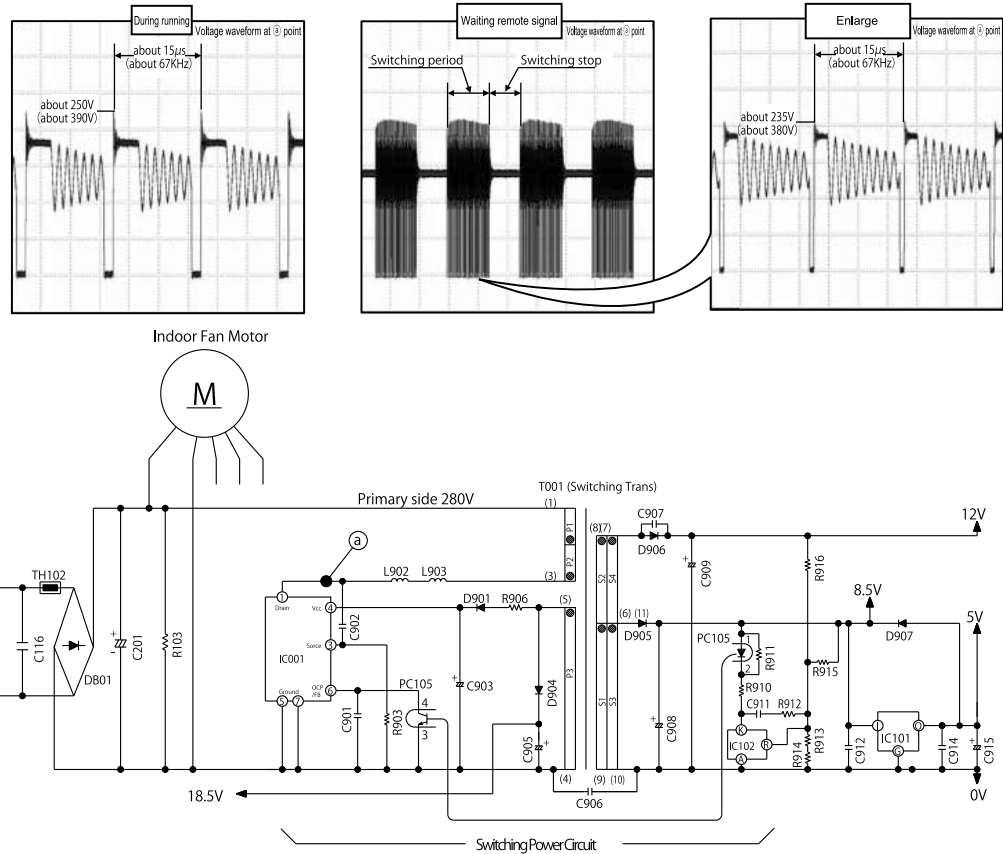

Fig. 1-1
- The switching power circuit, as controlled by IC001, drives the primary winding of the transformer (T001) to produce a specified voltage at the output winding. [The output terminal (pin ①) of IC001 has a switching voltage as shown in Fig. 1-1 but it changes in voltage peak and oscillation period depending on the power load. While on standby for a remote control signal, in particular, the oscillation frequency is lowered to a level as low as 20 kHz or so to reduce the standby power.]